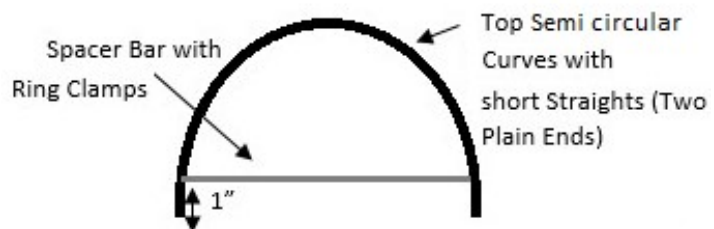

Figure 1: Attach the Spacer Bars onto the Top Curves
2. Slide a Spacer Bar onto the Top semicircular curves, position the spacer bar 1" from the end of the curve, as illustrated in Figure 1.
- If the distances are not equal adjust, as necessary, the clamps' positioning on the Top Curves (refer to Figure 1), and tighten the clamps.